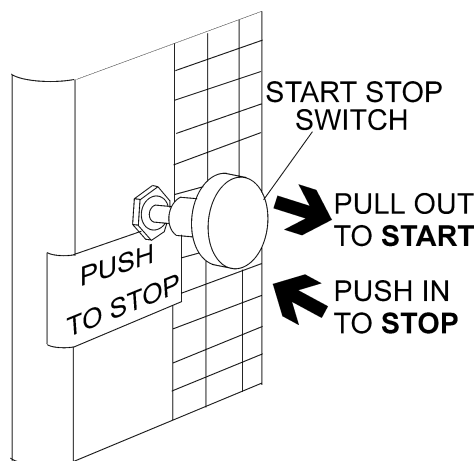

Figure 10. Main ON/OFF Switch
- Located on the engine cover is the main **start/stop** switch (Figure 10). Pull this switch outward to start the engine.
- Push the main **start/stop** switch (Figure 10) inward to stop the engine.